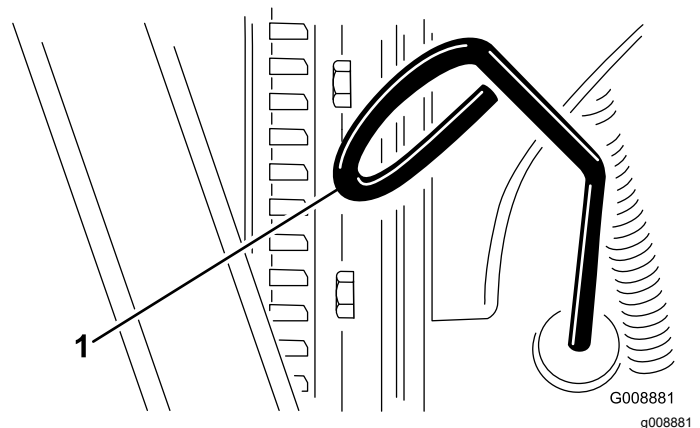

Figure 54
3. Remove the dipstick, wipe it clean, install the dipstick into the tube, and pull it out again. The oil level should be between the FULL and ADD marks (Figure 54).
- If the oil level is low, remove the fill cap and add oil until it is between the FULL and ADD marks (Figure 54).